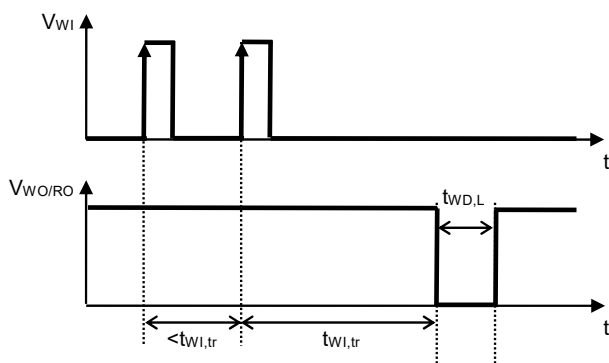

Figure 7 Watchdog Trigger Time
- *1. The time when the WO / RO pin continues "L" after the watchdog timer detects a time-out or double-pulse (Refer to **Figure 7**). This value changes according to C_{DLY} .
- *2. The time from when the watchdog timer initiates the detection of a trigger signal to when a time-out is detected and the WO / RO pin output changes to "L" (Refer to **Figure 7**). This value changes according to C_{DLY} .